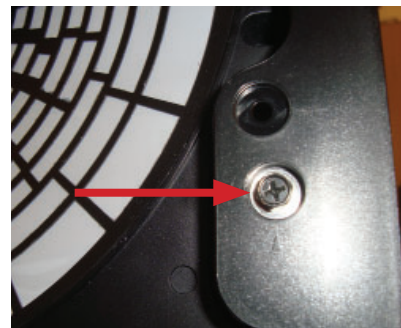
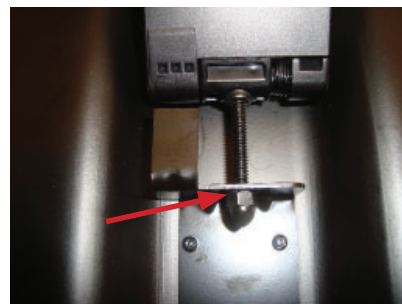
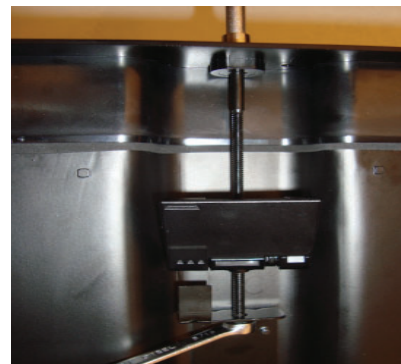

Figure 10
Figure 11
Figure 12
2.4 Figure 10 shows one of the four anchor bolt 5/16 head and washer and figure 11 indicates the 5/16 acorn nut and washer. Figure 12 shows an example of removal.
2.5 When removing the acorn nut as shown in figure 11 from the anchor bolt, take care not to lose the washer, indicated by the red arrow.
Note: A 5/16 nut driver and a 5/16 open end socket will be required as shown in figure 12. The acorn nut is secured to the anchor bolt threads with Loctite 263.